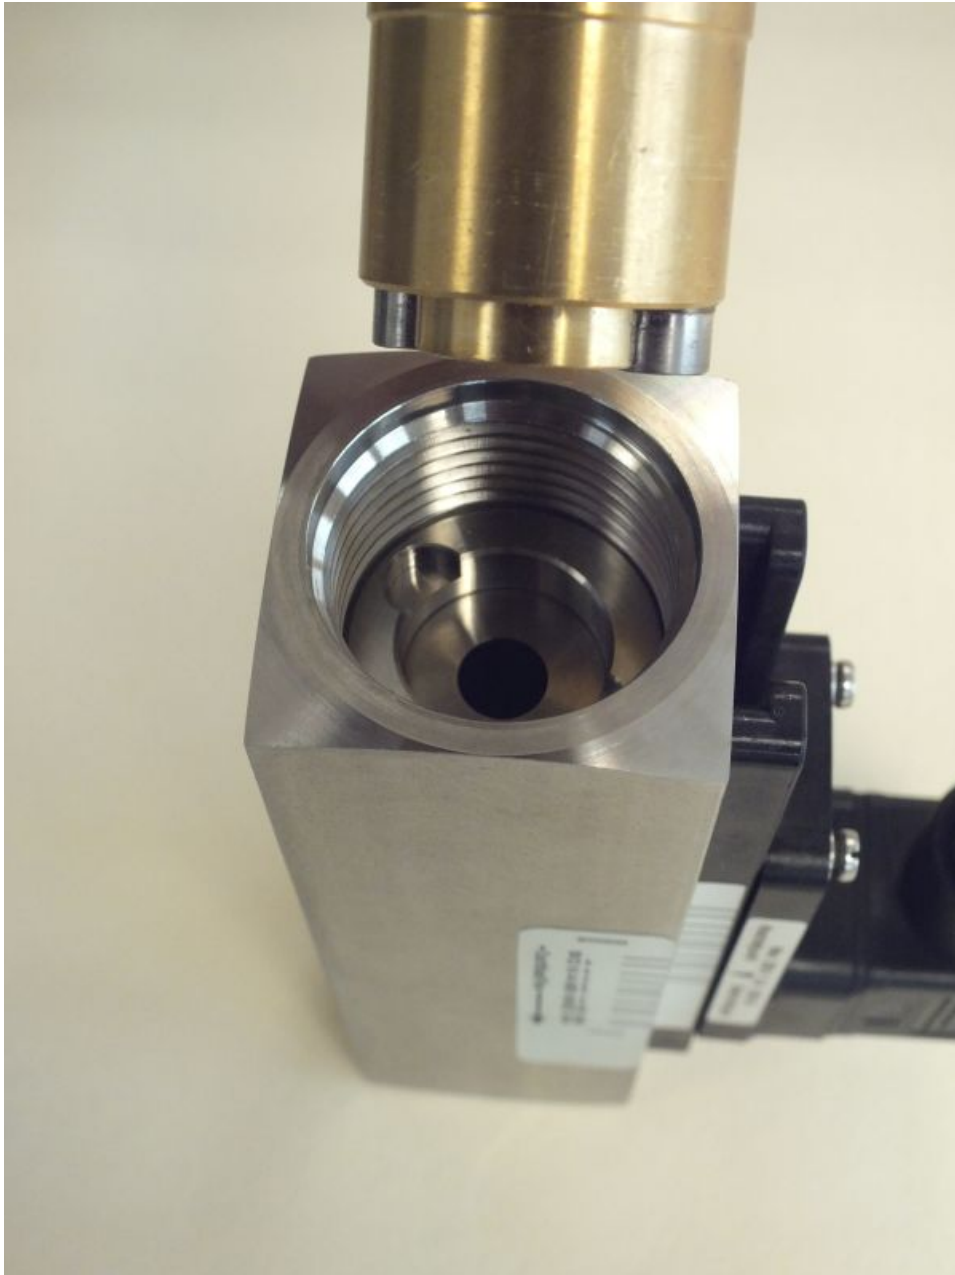

Fig. 50: Insert threaded ring insertion tool (inlet)
- 10.** ▶ Insert the threaded ring insertion tool into the device inlet (*Fig. 50*) and turn until it rest in the keyway of the threaded ring